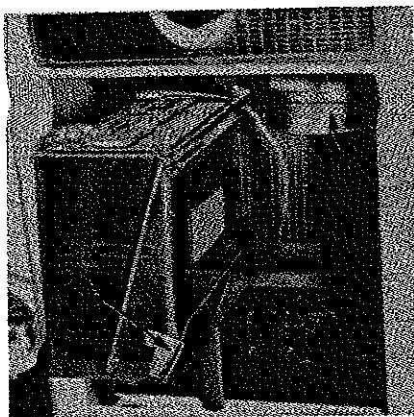

Fig. 195—Model 1200 hydraulic pump (C) is accessible after removing grille and swinging battery tray outward. Oil cleaner is (B); battery tray latch is (A).
Fig. 196—Exploded view showing construction of both the single and dual pump assemblies for Model 1200. Pump drive components and mounting bracket are also shown; pump is mounted in front of radiator (see Fig. 195) and is driven from engine crankshaft through shaft (4).
253. To remove model 1200 hydraulic pump, first remove the radiator grille. The pump is accessible through grille opening; refer to Fig. 195. Thoroughly clean pump, lines and surrounding area, then disconnect inlet and pressure lines from pump. Unbolt mounting bracket (7—Fig. 196) from tractor frame and remove the pump and bracket assembly. Straighten tab washer and remove nut retaining coupling (6) to pump shaft, then using